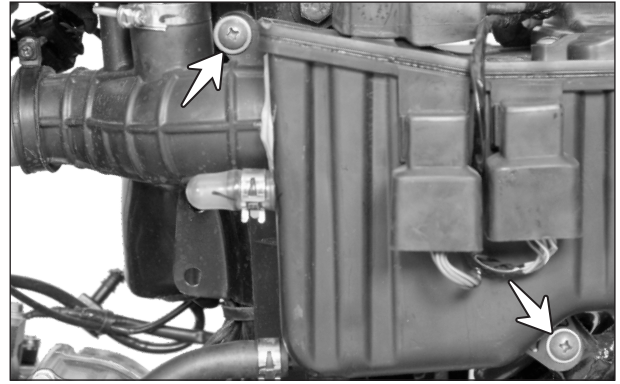

Fig. 6.133
- Remove the CRR pan head screw (M6x16 - 2 nos.) along with the punched washers and take out the air cleaner assembly. (Fig. 6.133)